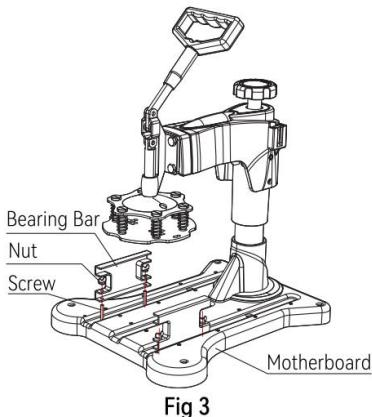

Fig 3
3. Use 4 screws from the bottom up, through the bearing bar from the back of the backplane, and then lock it with hand screws (as shown in figure3).